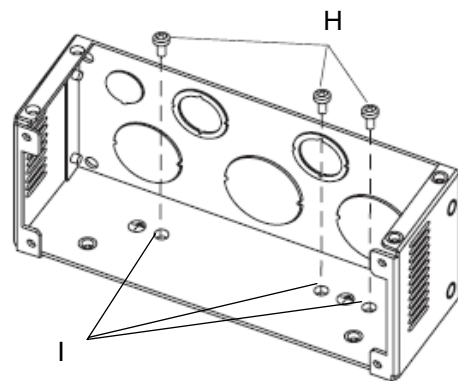

Figure 8
Step3: Remove the three green ground screws (H) from the inverter and install them in the three holes (I) at the base of the conduit box. See figure 8.